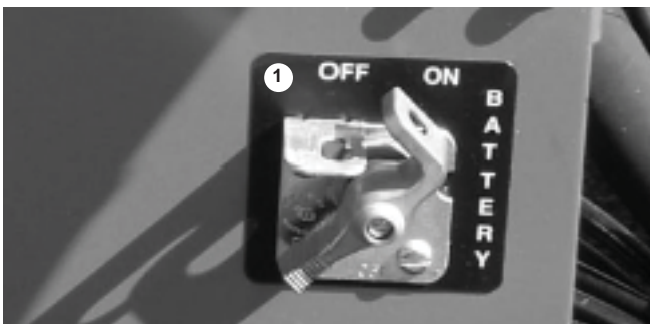

Figure 11.12
1. Set the battery switch (1) (see figure 11.12) to on.